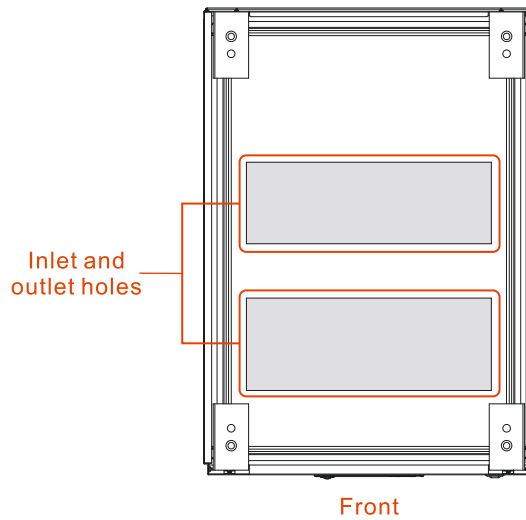
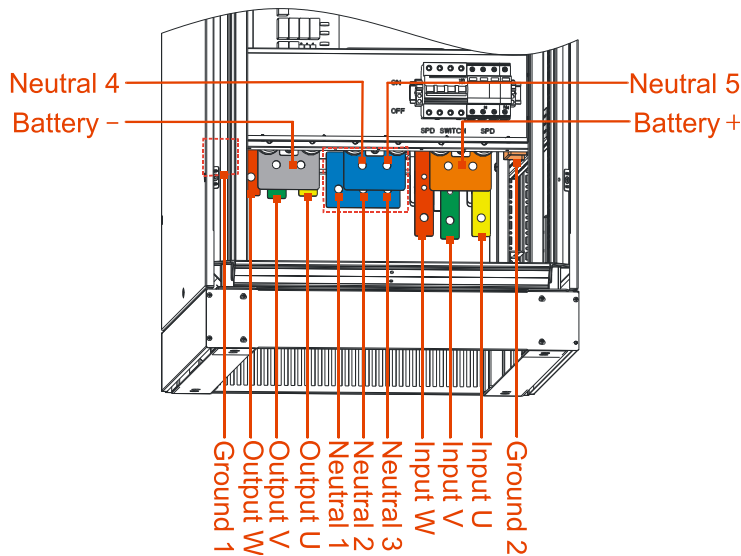
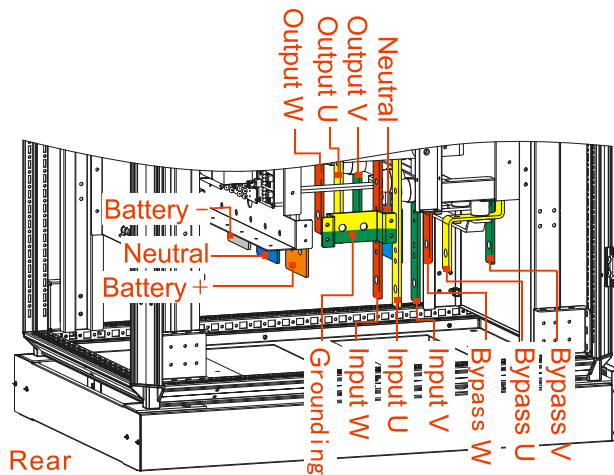

Figure3-18 Inlet and outlet diagram
Figure3-19 Wiring terminal 1
Figure3-20 Wiring terminal 2
- Step 2 Draw the input wires, output wires, battery wires through the bottom holes(As shown in Figure3-18), and connect them to the corresponding copper bar(As shown in Figure3-19 and Figure3-20), and fasten the bolts.